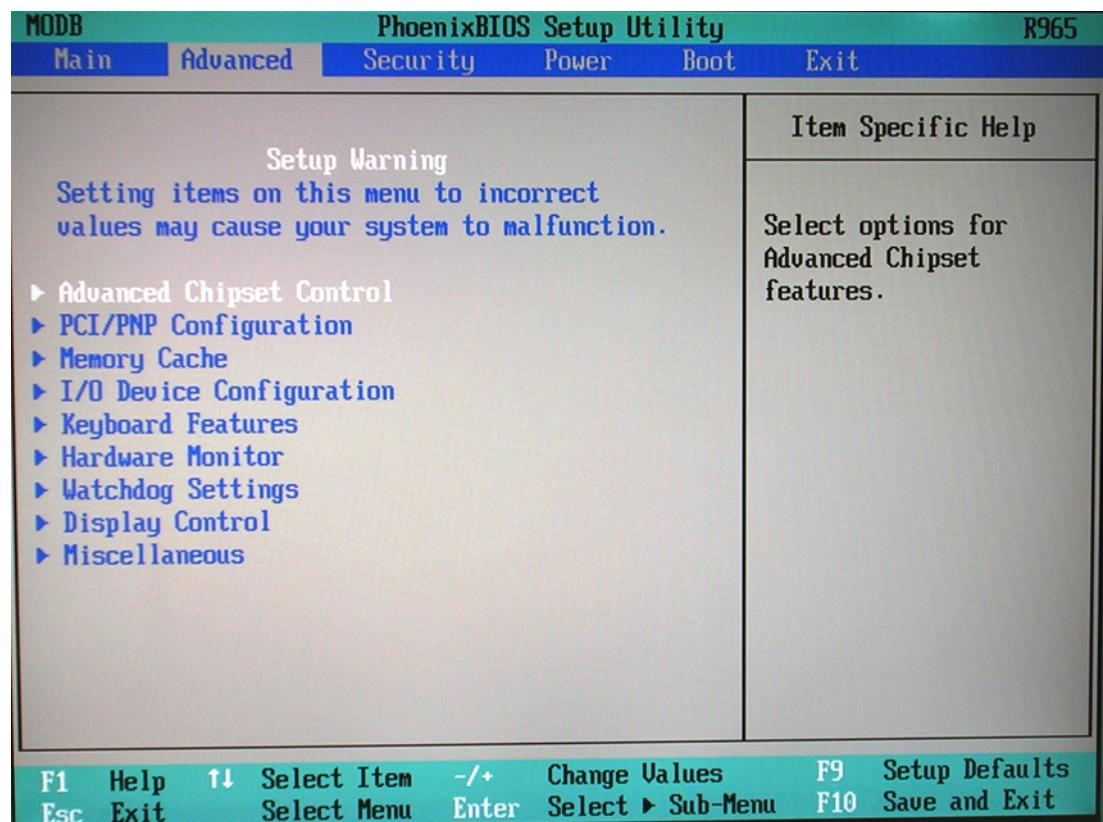

Figure 8-56 BIOS Advanced Parameters Screen
- 4.) Press <Esc> to return to the **Advanced** menu home screen (Figure 8-56).
- 7.) Press <Esc> to return to the **Advanced** menu home screen (Figure 8-56).
- 10.) Press <Esc> to return to the **Advanced** menu home screen (Figure 8-56).
13.) Press <Esc> to return to the **Advanced** menu home screen (Figure 8-56).
- 16.) Press <Esc> to return to the **Advanced** menu home screen (Figure 8-56).
- 19.) Press <Esc> to return to the **Advanced** menu home screen (Figure 8-56).
- 22.) Press <**Esc**> to return to the **Advanced** menu home screen (Figure 8-56).
- 25.) Press <**Esc**> to return to the **Advanced** menu home screen (Figure 8-56).